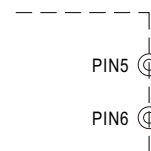

Fig. 4.2 Remove the CN1
- Remove the shorting connector on CN1 that is shown in Fig 4.2, the Overload Protection Type will be "continuous constant current limiting".